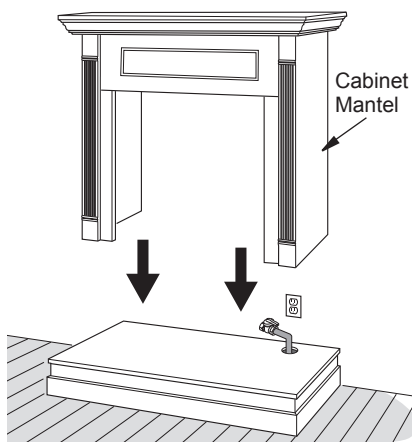

Figure 10 - Installing Cabinet Mantel
6. Center cabinet mantel on hearth base (see Figure 10, page 11). Make sure mantel is flush against wall.